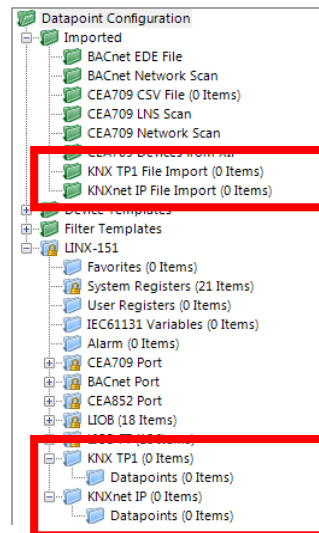

Figure 155: Data Point Manager Dialog with KNX import and device folders.
- The folder list (Figure 155),